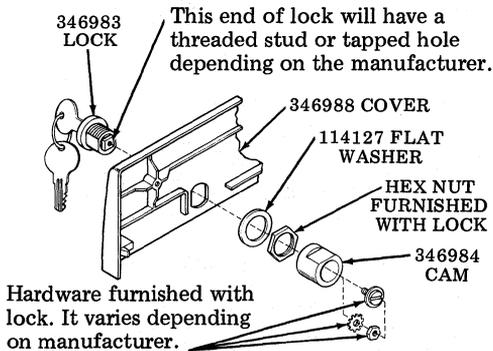

Fig. 7—Lock Cover Assembly
2.10 Assemble the 346983 lock to the 346988 cover using the 114127 flat washer and hex nut furnished with the lock. Assemble the 346984 cam with the flat facing the top of the cover when the key is in the 12:00 o'clock position. Fasten the cam to the lock with the hardware furnished with the lock. See Fig. 7.
1.03 All cables to and from a pedestal mounted controller go through the cable duct at the lower rear of the 40CAB901/AJ pedestal. All cable lengths within the pedestal should be kept to a minimum. When ordering cables, careful calculation of the length required is necessary to prevent coiling and storing large excesses of cable within the pedestal. All cables to and from the controller must be routed through the strain relief clamp located on the door. See Fig. 7.